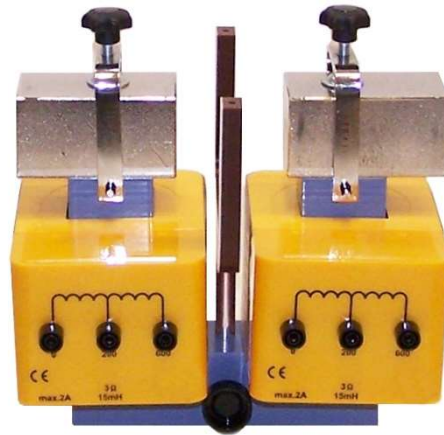

Fig. 4: Set-up on U-shaped core with coils, pole pieces and U-shaped holder
- Place the pole pieces on the legs of the core and secure them in place with clamps (see Fig. 4).